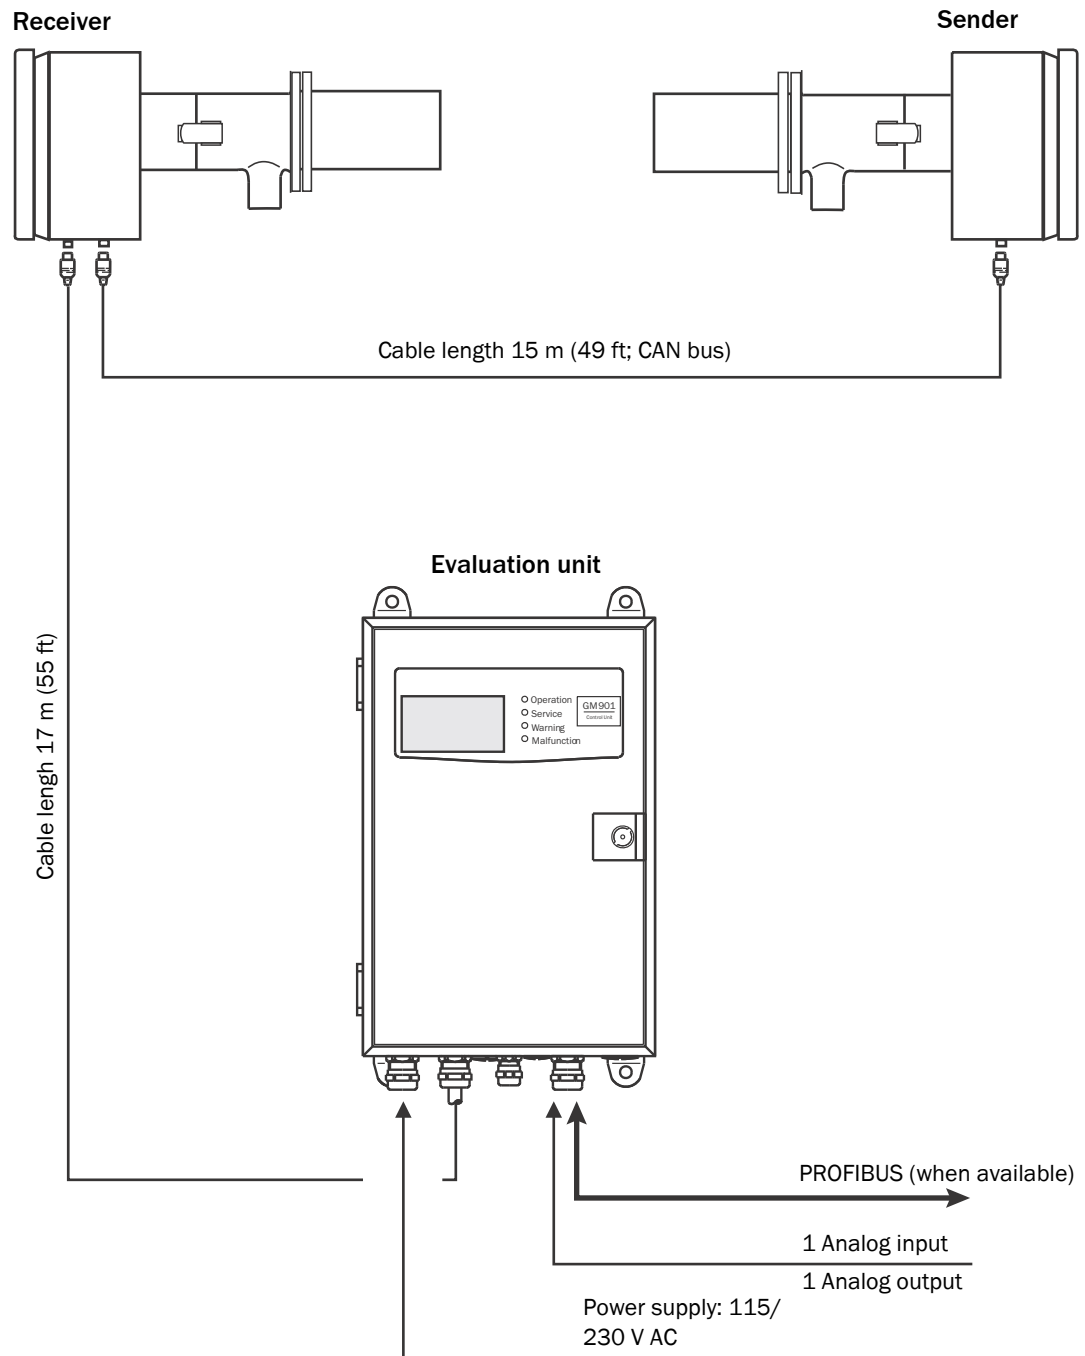

Fig. 19 Electrical connection GM901 (standard)
- Connect system components according to Fig. 19.